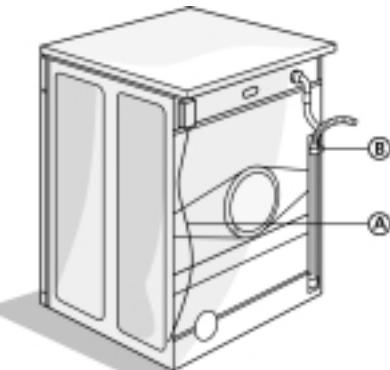

Fig. 1
#### a) Drain hose on rear panel of appliance, Figure 1
1. Unhook the drain hose from the left clip, see arrow A in Fig. 1.
Do NOT loosen the right drain hose connection, see arrow B in Fig. 1, otherwise there is the risk of leakage (danger of scalding with hot water).